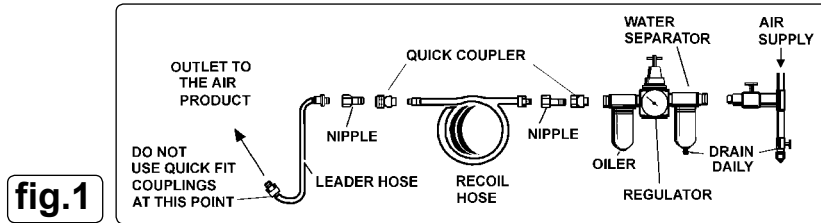

fig.1
- 4.1.4. Clean air inlet filter weekly. Recommended hook-up procedure is shown in fig.1.